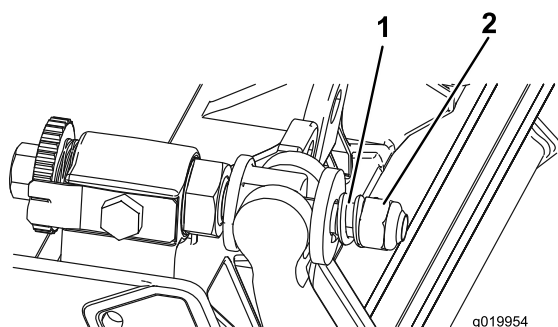

Figure 28
3. Tighten spring tension nut until spring is collapsed, then back off 1/2 turn (Figure 28).
10. Tighten the nut on each bedbar adjuster assembly until the compression spring is fully compressed, then loosen nut 1/2 turn (Figure 28).